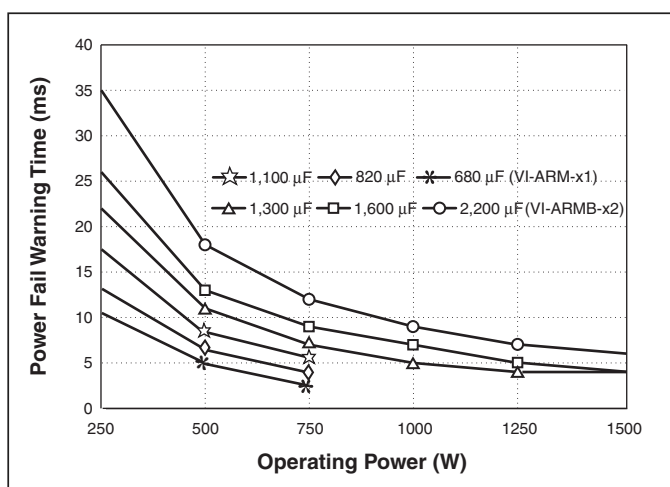

Figure 15 — Power fail warning time vs. operating power and total bus capacitance, series combination of C1, C2 (Fig. 10)
Calculated values of bus capacitance for various hold-up time, ride-through time, and ripple voltage requirements are given as a function of operating power level in Figures 15, 16, and 17, respectively.
**Warning.** Fig. 15 is used to determine hold-up capacitance for a given power fail warning time and power level, and shows that the total bus capacitance must be at least 820 μF. Since two capacitors are used in series, each capacitor must be at least 1,640 μF.